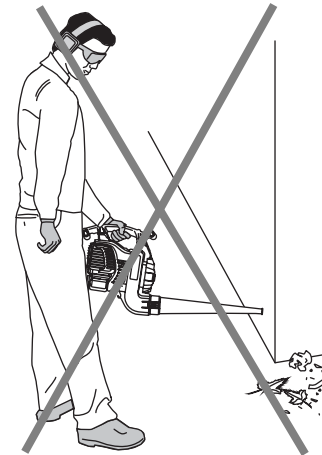
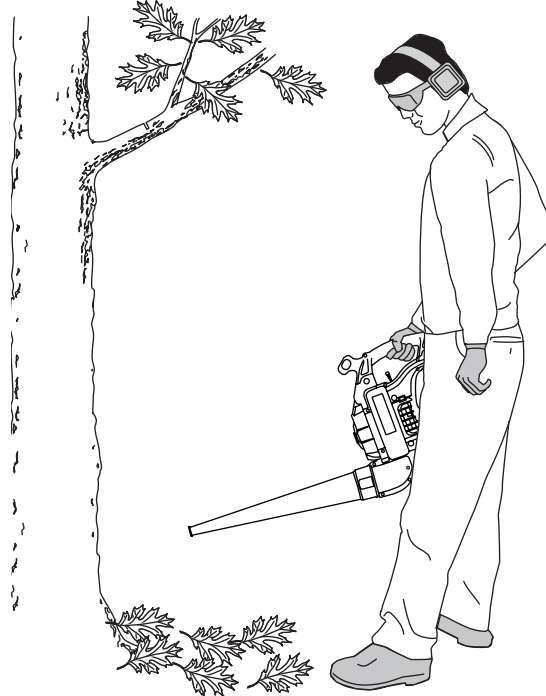

Fig. 19
Fig. 20
WARNING - Hot Surface: After starting the unit, always stand on the left side of the unit to operate it as shown in Figure 20. Do not operate the unit as shown in figure 19.
1. Use the blower for trees, shrubs, flower beds and hard-to-clean areas (Fig. 19).
2. Use the unit around buildings and for other normal cleaning procedures (Fig. 19).
3. Use the blower around walls, overhangs, fences and screens (Fig. 20).